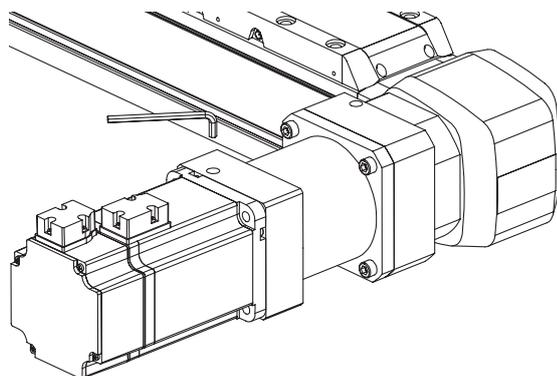

Fig. 6.62 Tightening the clamping hub on the motor shaft
- ▶ Place the motor flat on the motor gear adapter plate GM (see Fig. 6.62).